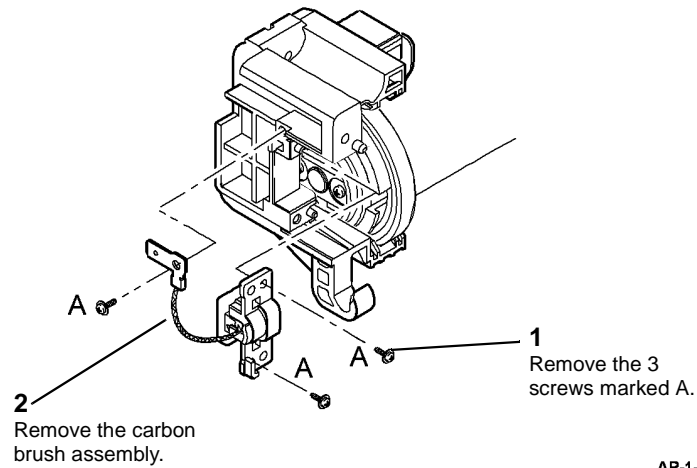

Figure 2 Carbon brush removal
3. Remove the front and rear carbon brush assemblies, Figure 2.
NOTE: Figure 2 shows the removal of the front carbon brush assembly. The procedure for removing the front or rear carbon brush assembly is identical.